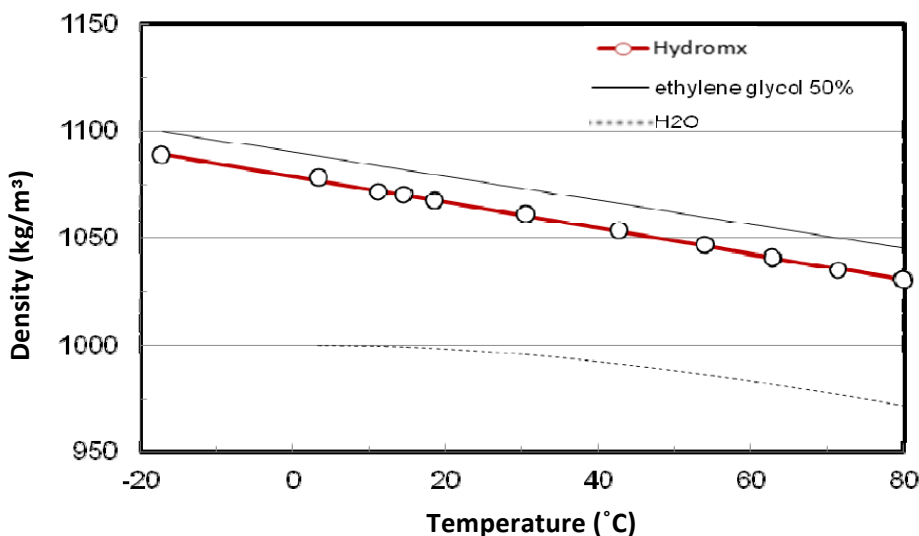

Figure 4. Measurements of the density of Hydromx as a function of temperature.
In the above equation, ρ (kg/m³), is the density, and T (K), is the temperature. In Table 4, values calculated by this equation are also shown. The percentage deviations of using this equation are less than 0.2%. In Figure 4, the measured densities of Hydromx are shown. For comparison reason, typical literature values of the density of water and ethylene glycol 50%, is also shown.